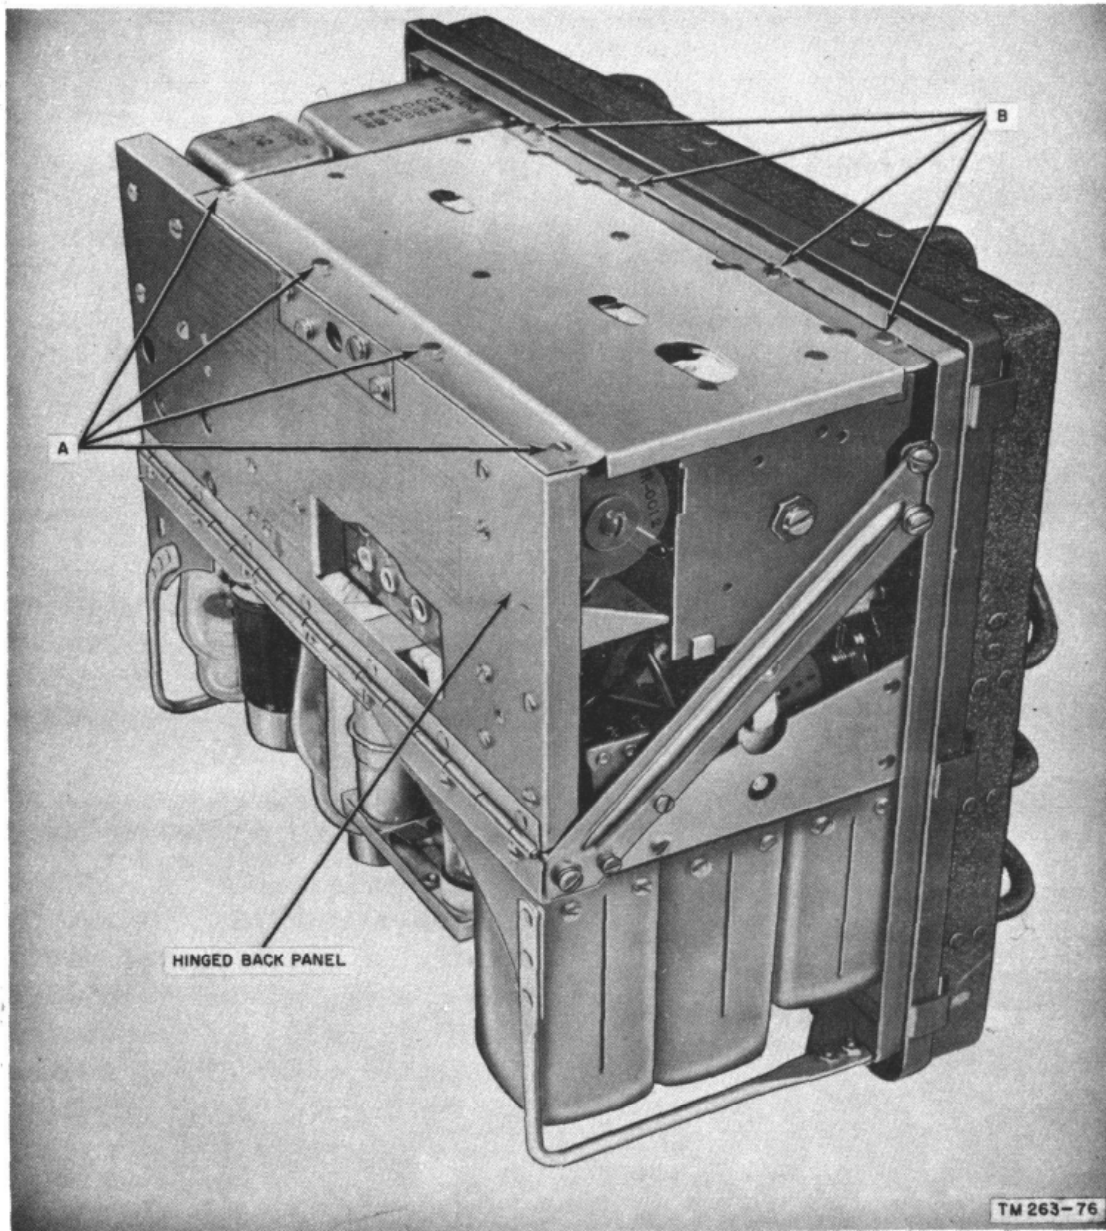

Figure 118. Location of screws A and B.
b. Remove all screws marked "B" on the bottom of the transmitter assembly (fig. 118) and remove the cover plate held on by these